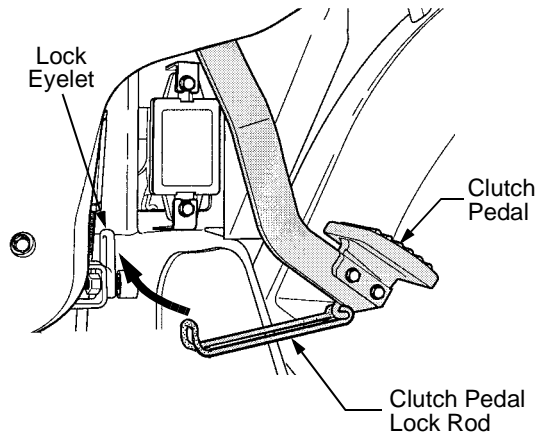

Figure 80
- Depress the clutch pedal and engage the clutch pedal lock. See Figure 80.